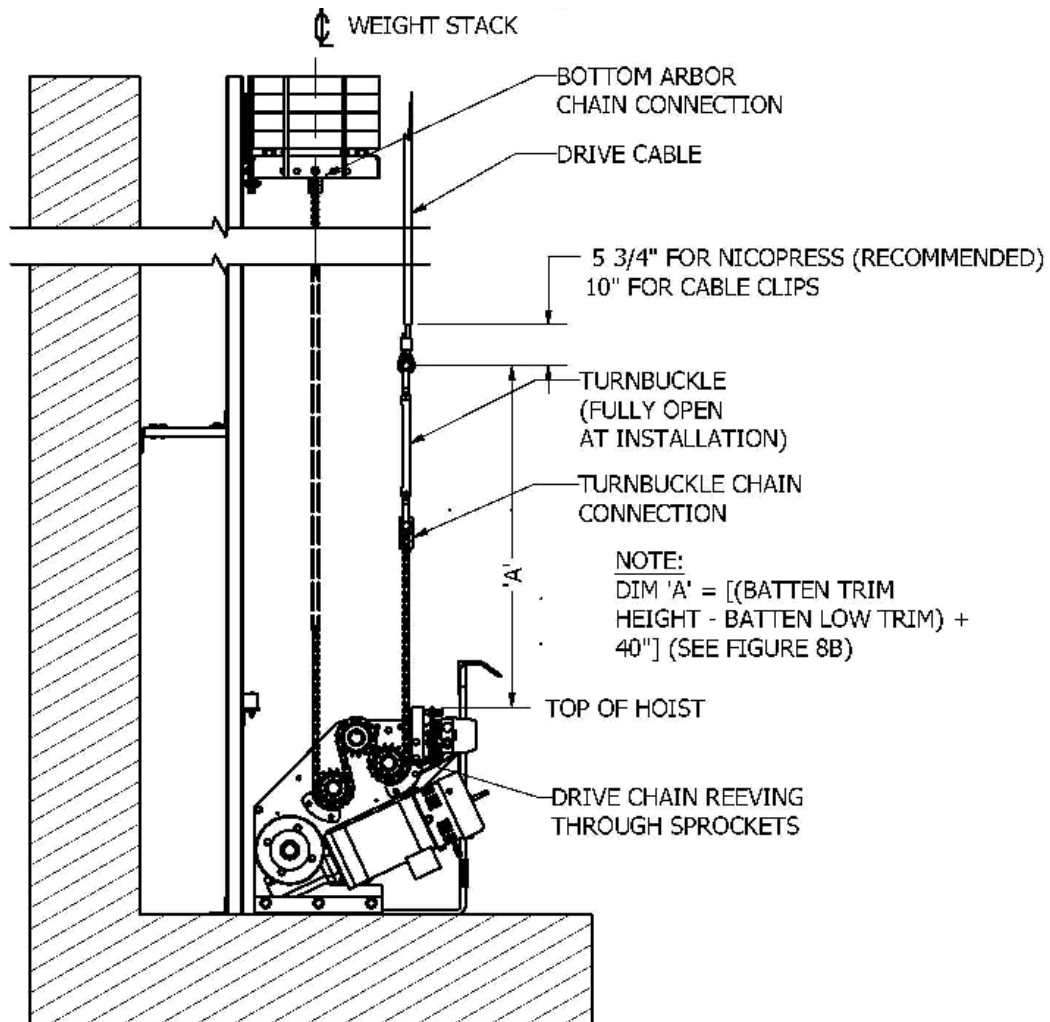

Figure 8A: Hoist alignment and chain reeving
6. Subtract the correct number from distance A as seen in figure 8A to calculate the distance from the top of the hoist to the point where the drive cable should be cut. Cut the drive cable.
8. Use a thimble and Nicopress oval sleeve to terminate the cable as shown in Figure 8A.
5. Pin the turnbuckle into the Chain End Link and fasten the cotter pin as seen in figure 8A.